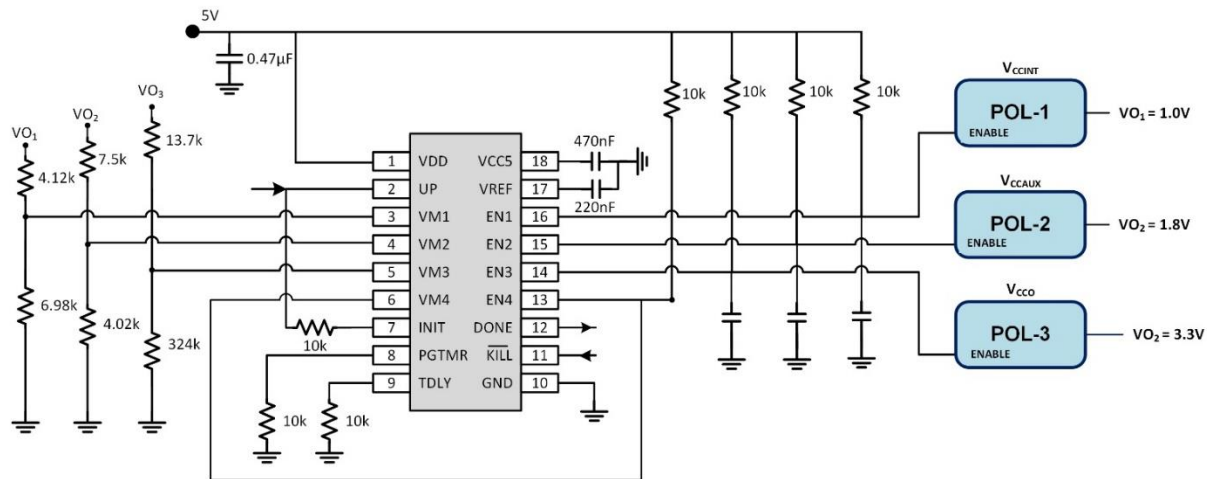

Figure 5. ISL70321SEH application diagram
Figure 5 illustrates an application schematic using the ISL70321SEH to sequence the core, auxiliary and I/O voltage rails required for a typical high-performance FPGA. A resistor divider connected from the power supplies to the corresponding voltage monitor (VM) pin is all that is needed to monitor each rail, this divider also sets the turn-on and turn-off voltage of the next sequenced device. The simple open drain EN outputs make it easy to drive voltage regulators with different enable thresholds. Programmable rising and falling delays are easily achieved by use of a single external resistor. This delay can be programmed between 2ms to 20ms. A power good timer is also included to detect if a rail does not come up within a programmed window of time from 4ms to 40ms.